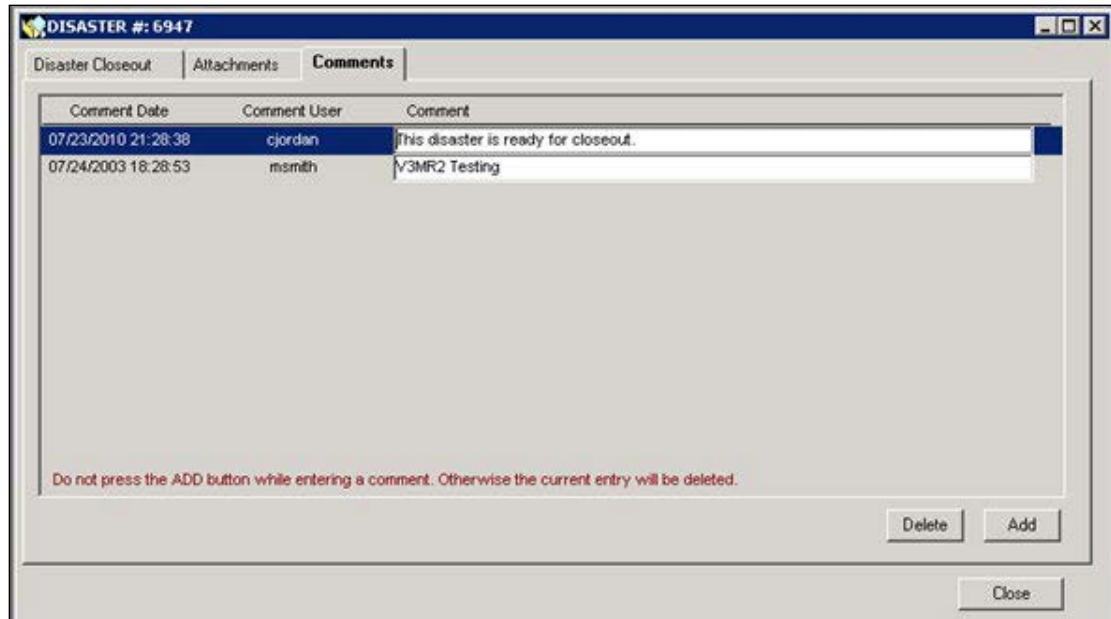

Figure 13-11: Comments Added
15. The comments are now displayed on the **Comments** tab (Figure 13-11).